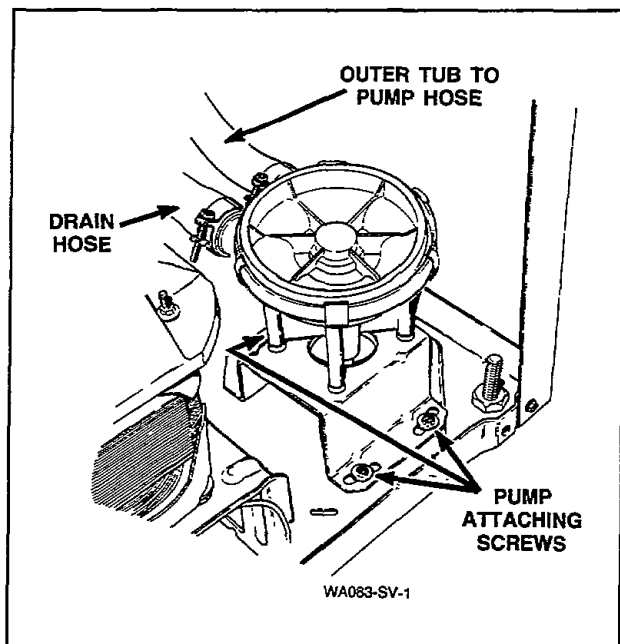

Figure 26
- Loosen the hose clamps and remove hoses from pump assembly, *Figure 26*.